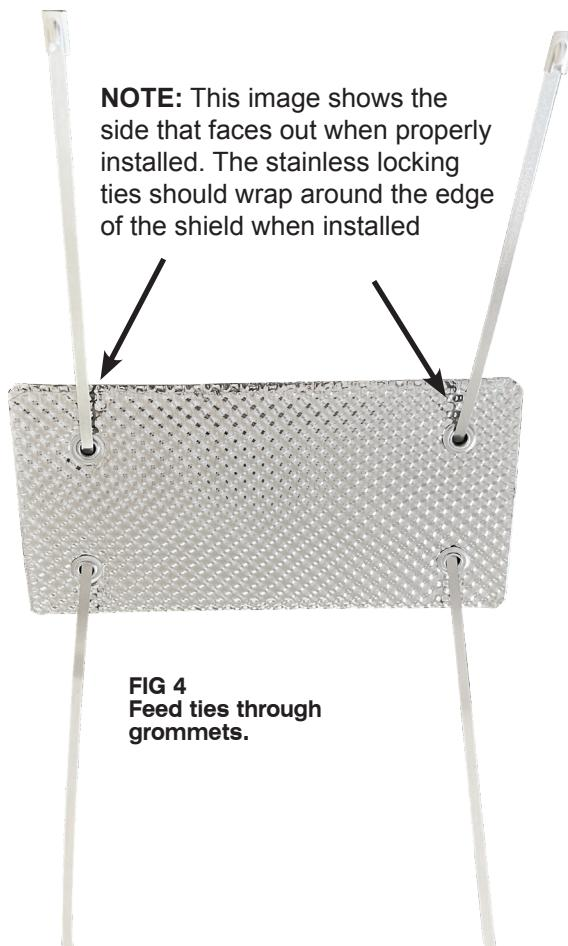

FIG 4
STEP 5. Feed the ties through the grommets in the shield as show in figure 4. It is important to feed them as shown in the diagram so the shield will be secure when installed.